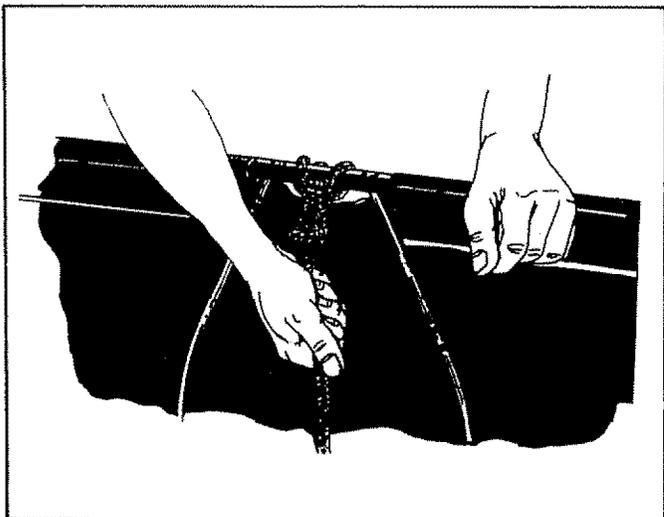

FIGURE 23
15. Secure the rope to the top center of hopper bag frame as shown in figure 23.